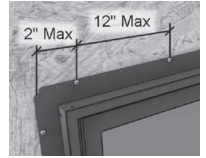

Figure 5
7. **(Required)** After checking the operation of the window, complete the fastening by placing fasteners in the provided nailing fin holes, spaced a maximum of 12" apart and 2" from the ends as shown in **Figure 5**.